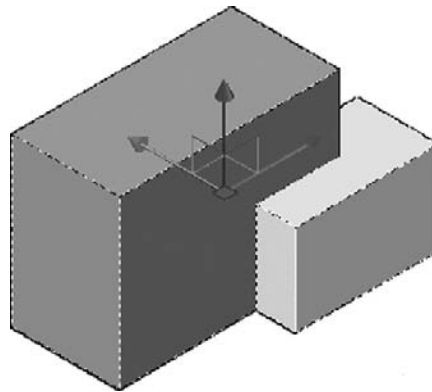
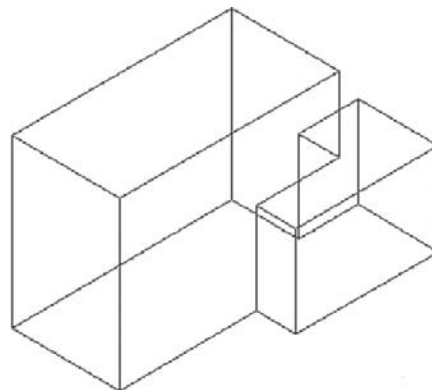

FIGURE 24.3
FIGURE 24.4
Step 2. Select both cubes (they turn dashed) and press Enter. Both cubes now are fused, as seen in Figure 24.3. Notice how the grips reflect one entity, not two. Go ahead and move the objects; they move as one. This becomes even clearer if we switch to wireframe (Figure 24.4), with a color change for additional clarity.